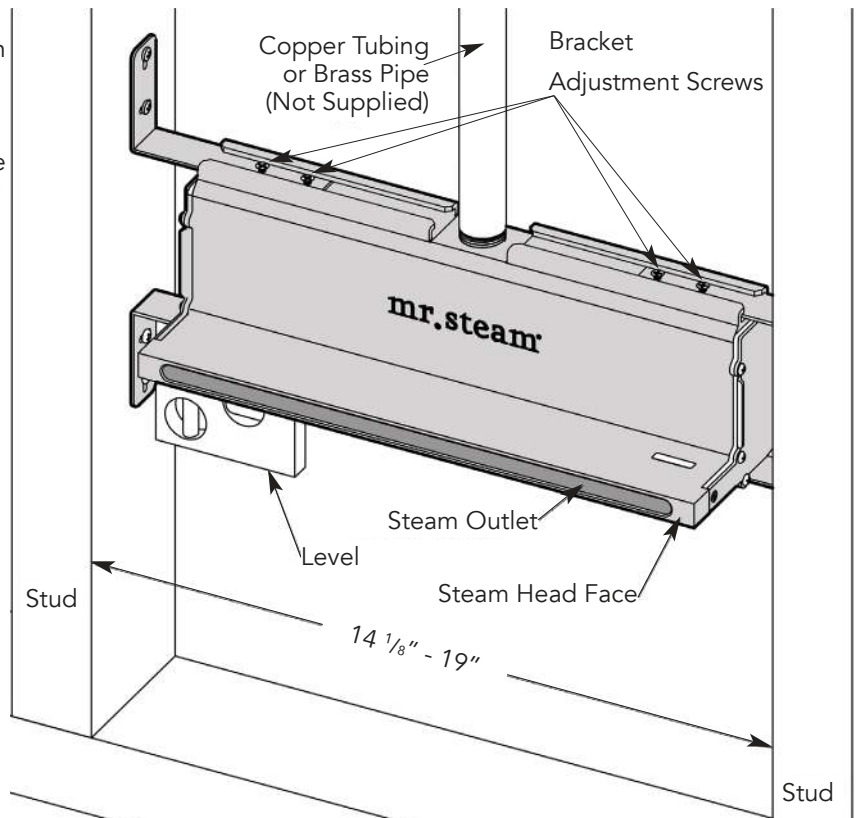

Figure 3
**CAUTION** Only install the linear steam head in a horizontal orientation as shown in fig 3. Failure to follow these instructions may result in a leak within the wall cavity and cause problems associated with leaks, moisture and property damage from leaks. Failure to follow these instructions may result in a hazardous condition, scalding or personal injury.
**STEP 3.** Position the steam head between 2 properly spaced studs. Extend the adjustable brackets as required so the steam head fits snugly between two studs. Use a level to ensure the steam head is level (see Fig. 3). Tighten the eight bracket adjustment screws (supplied).